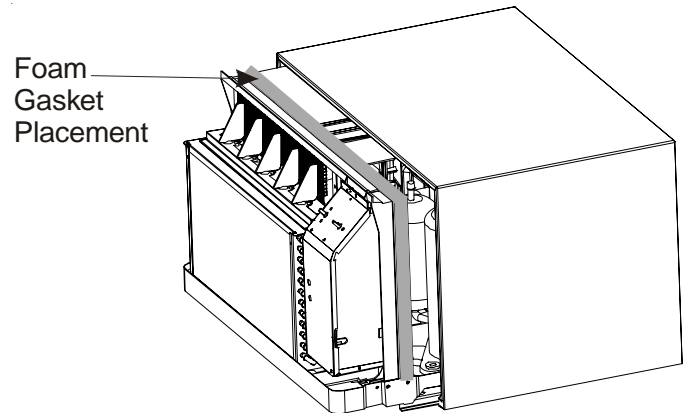

Figure 4
7. To prevent the recirculation of outside air, place foam gasket in the open space between the chassis and inside of the sleeve on both sides and top. See Figure 4.